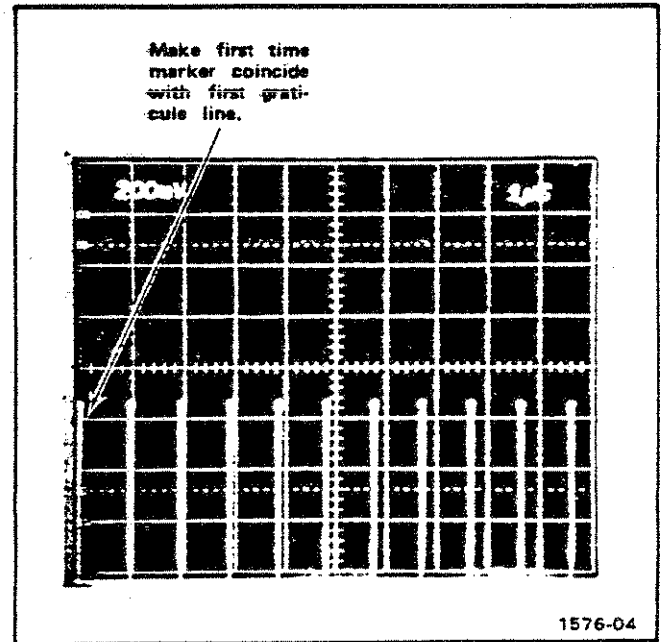

Fig. 2-3. Timing error of time base.
7. Use the Horizontal Position control of the time base to make the first time mark coincide with the first graticule line on the oscilloscope. See Fig. 2-3.